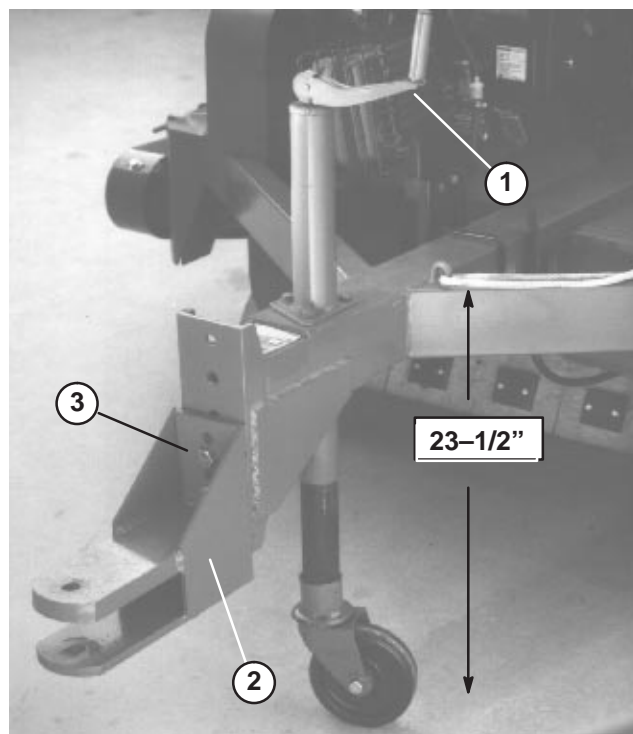

Figure 2
3. Adjust sweeper jack so distance from top of frame to ground is approximately 23-1/2" (Fig. 2).
- Remove capscrews and locknuts securing hitch tongue to frame (Fig. 2).
- Raise or lower hitch tongue to position approximately level with prime mover hitch and secure with (2) capscrews and locknuts.